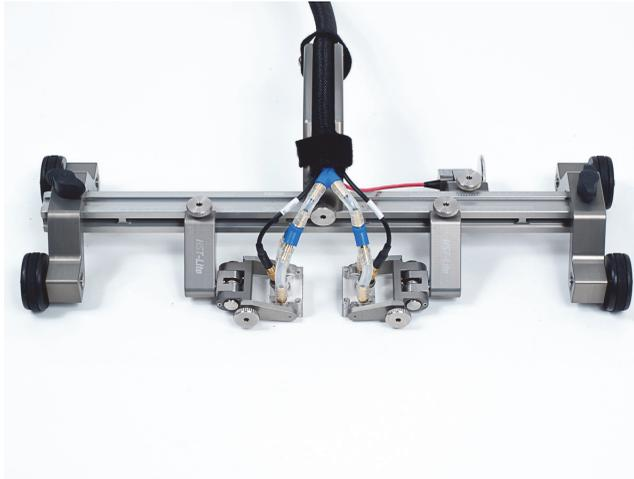

Figure 1-18 Cable and tube bundle in the scanner handle
5. Position the cable and tube bundle in the scanner handle, and then fasten the hook and loop strips (see Figure 1-18 on page 22).